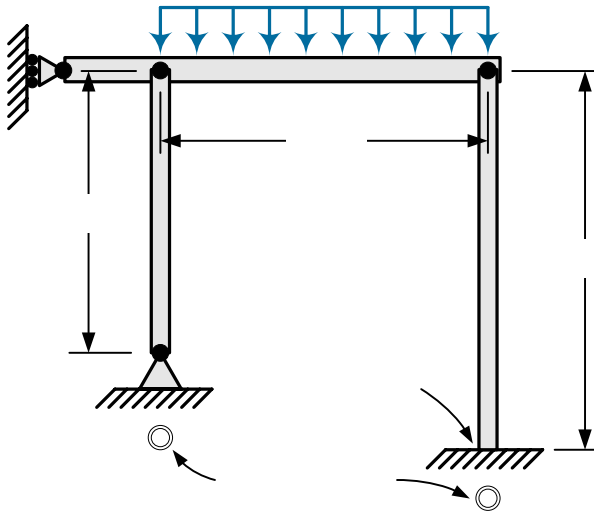

Figure 3
3. The aluminum frame in Figure 3 consists of a rigid beam  $AC$  supported by two circular tube columns  $BD$  and  $CE$ . The beam is attached to the columns at points  $B$  and  $C$  by means of pinned connections. Column  $BD$  has a length of 1.5 m and is pinned at joint  $D$  while column  $CE$  with a length of 2 m is rigidly fixed at point  $E$ . The cross sections of both columns have an outside diameter of 40 mm and a wall thickness of 4 mm. The modulus of elasticity is 70 GPa. Provided that the factor of safety with respect to buckling is 2.5, determine the allowable uniformly distributed load  $w$  that can be supported by the frame between points  $B$  and  $C$  (25 pts).